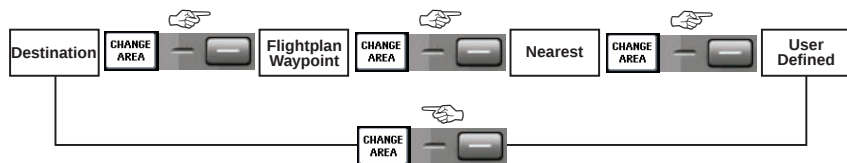

Figure 2-55
1. Press the **CHANGE AREA** Softkey to view either **Nearest** to present position, a **User Defined** location, the **Destination** (last waypoint in a flightplan) or **FPLN WPT** (any waypoint in an active flightplan). The softkey cycles through the **FILTER AREAS** as shown in Figure 2-55.